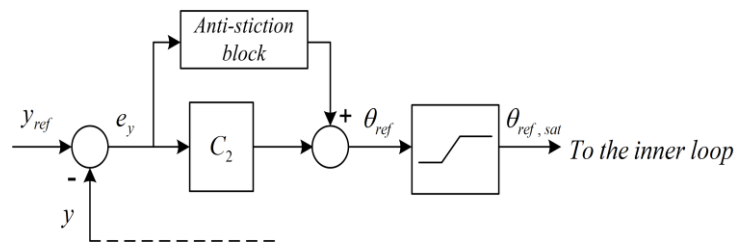

FIGURE 10: A possible ball anti-stiction implementation.
- (e) You may have noticed that for small beam angles, the ball does not move; it “sticks”. The ball stiction is somewhat similar to the motor stiction encountered in the inner-loop. The strategy used there was to approximately cancel it out by adding a small voltage offset to the motor signal. A suggested configuration to overcome the ball stiction is shown in Figure 10.